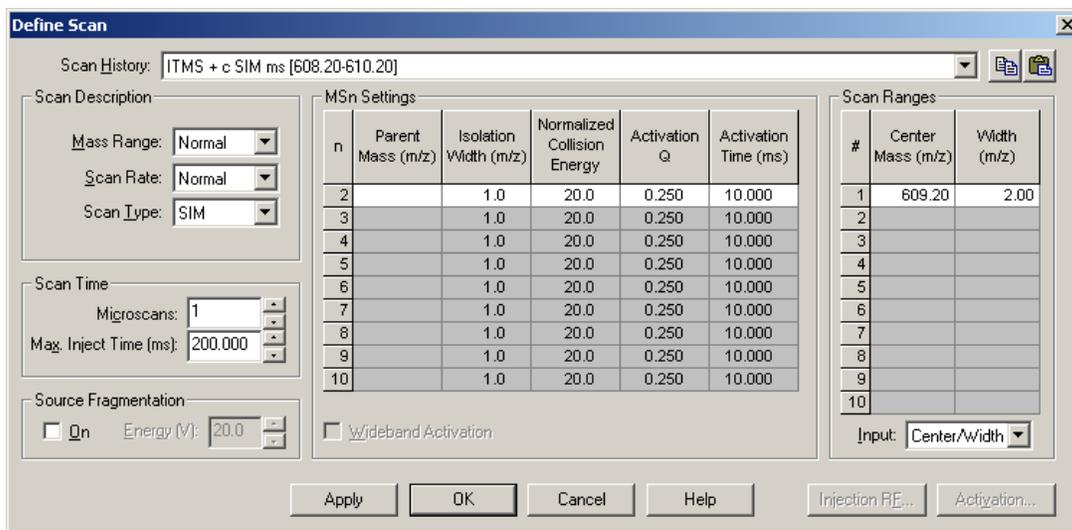

Figure 65. Define Scan dialog box, showing typical settings for acquiring data in the SIM scan mode
- a. Click the **Define Scan** button to open the Define Scan dialog box. Figure 65